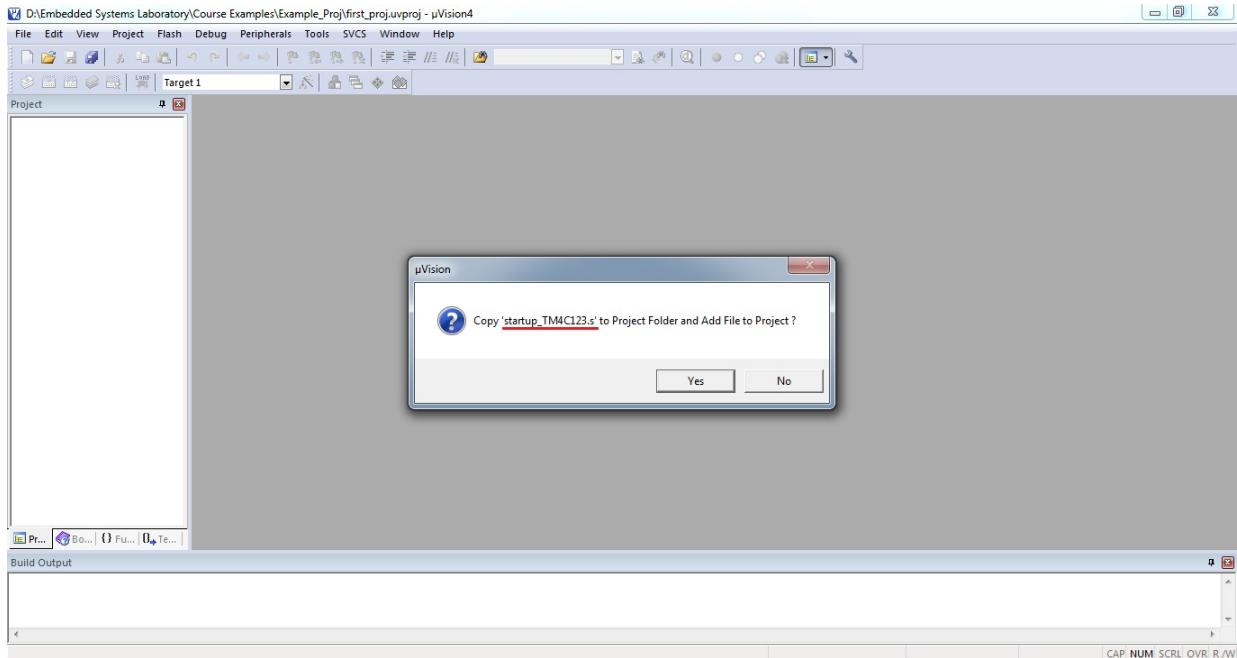

Figure 1.12: Add or discard the startup file to the project
5. When prompted to copy ‘**Startup_TM4C123.s** to project folder’ click on *Yes* or *No* according to the requirement of your project (Figure 1.12).